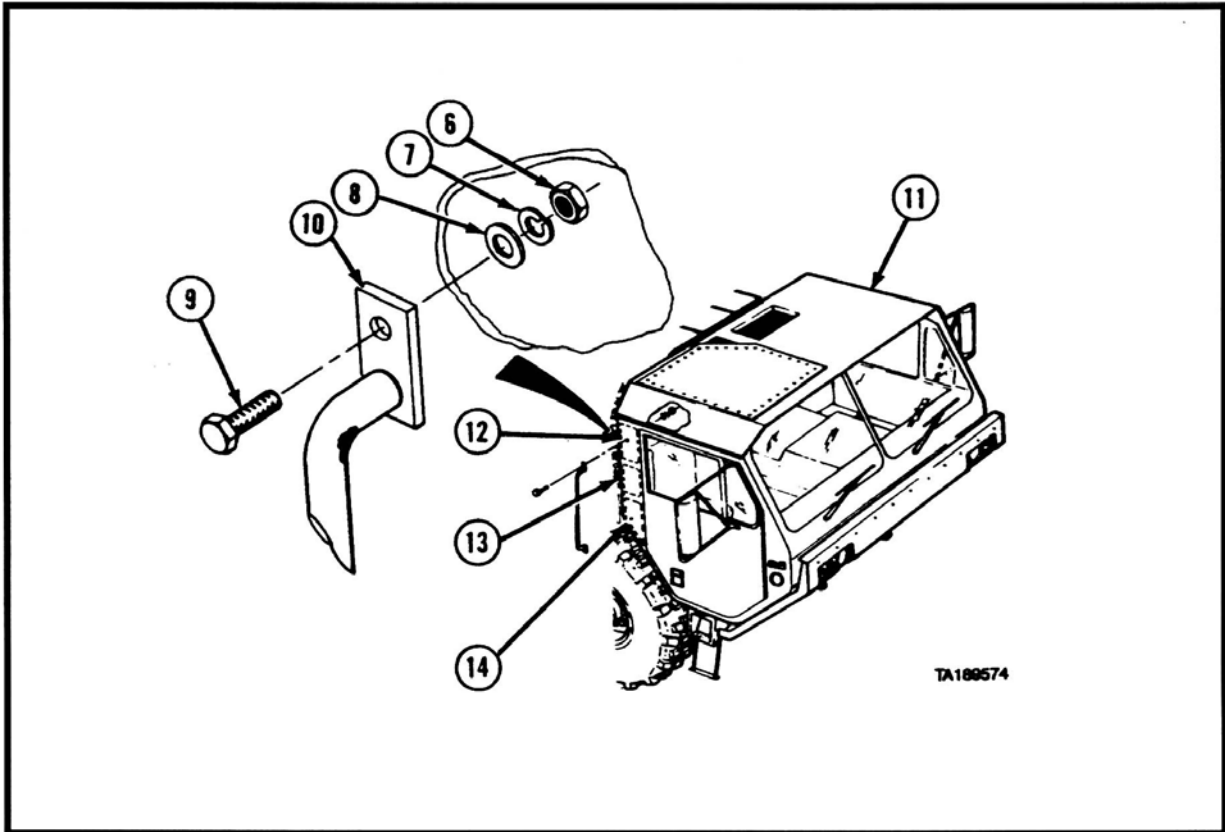

Figure 6. Remove the Side Grab Handles.
1. Remove the two nuts (Item 6 in Figure 6), lockwashers (7), flat washers (8), and bolts (9) that secure the Side Grab Handle to the cab, and then remove the Side Grab Handle from the cab.